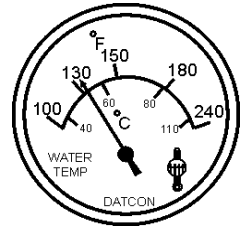

Figure 49. Coolant Temperature Gauge
10. The **coolant temperature gauge** (Figure 49) will indicate the coolant temperature. Under normal operating conditions the coolant temperature should be between 165 and 203 degrees Fahrenheit (**Green Zone**).